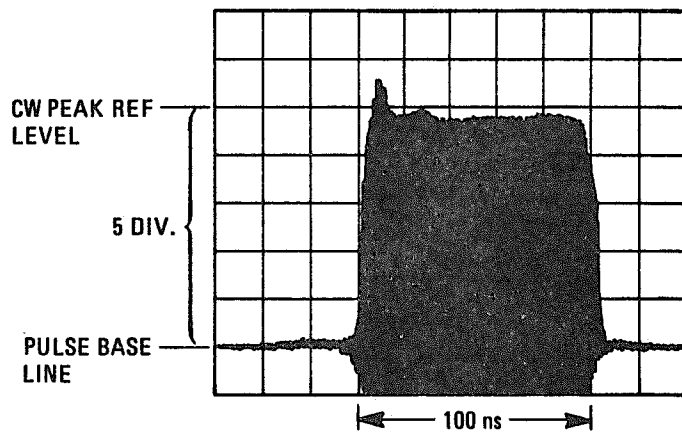

Figure 4-14. Pulse Accuracy Measurement
6. Switch back to PULSE NORM. Without touching the vertical sensitivity controls, measure the difference between the CW peak reference level and the average peak pulse level excluding any over/undershoot. See Figure 4-14.